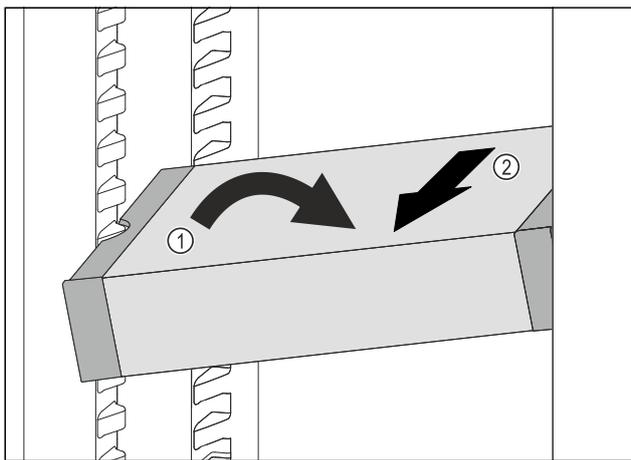

Fig. 100
- ▶ Set VarioSafe in refrigerator compartment at an angle. Fig. 100 (1)
- ▶ Take VarioSafe out to the front. Fig. 100 (2)